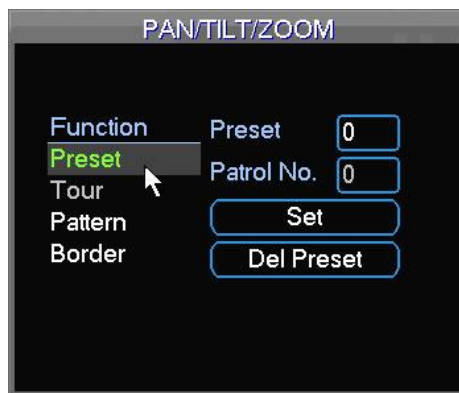

Figure 4-36
In Figure 4-32, click page switch button, the interface is shown as in Figure 4-36.
- The following setups are usually operated in the Figure 4-32, Figure 4-35 and Figure 4-36 .
In _Figure 4-36, please input preset number in the No. blank, and click preset button.
In _Figure 4-36, input mode value in the No. blank, and click pattern button.
In Figure 4-36, click "Auto Scan" button, the system begins auto scan. Correspondingly, the auto scan button becomes Stop button. Click stop button to terminate scan operation.
In Figure 4-36, click page switch button, you can see an interface is shown as below. See Figure 4-41. Here you can set auxiliary function. The aux value has relationship with the Aux button of the decoder.